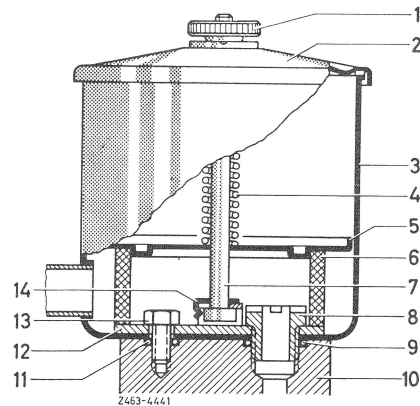

Fig. 12
17 Place O-rings (9 and 11) on pump housing (10) (Fig. 12).